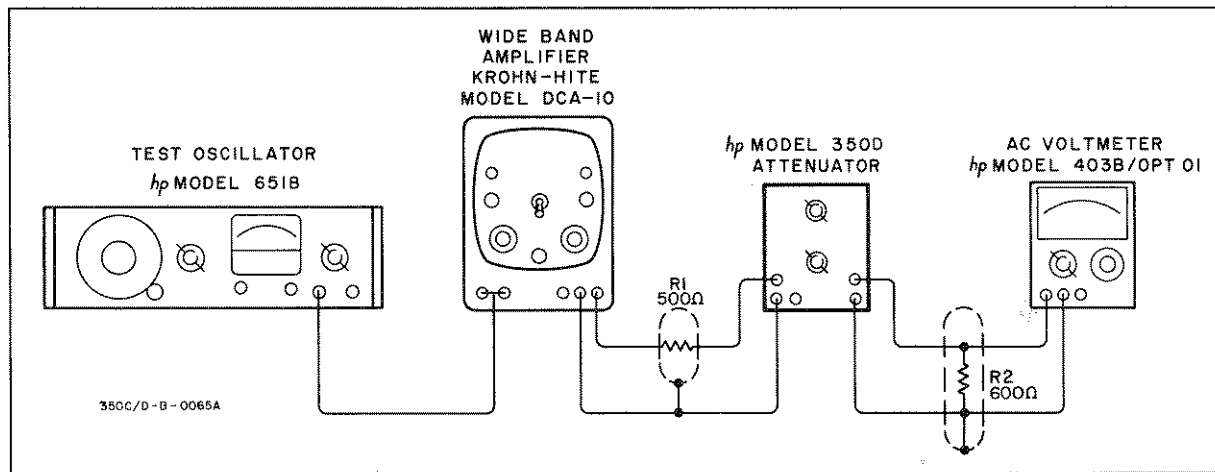

Figure 5-6. AC Performance Test Setup
5-14. The ac performance test setup is illustrated in Figure 5-6. An Oscillator (-hp- Model 651 B), an Amplifier (Krohn-Hite DCA-10), and a battery operated AC Voltmeter (-hp- Model 403B) are required for this test. In addition, (one 500 ohm and one 600 ohm, 10 watt, LPI-10 \pm 2% resistors for the 350D). These resistors must be enclosed in a shield as shown in Figure 5-6. The range-to-range accuracy of the AC Voltmeter from +40 dB to -60 dB must be known to within 0.1 dB at 100 KHz and 1 MHz. Any errors should be
- a. Make test setup illustrated in Figure 5-6.